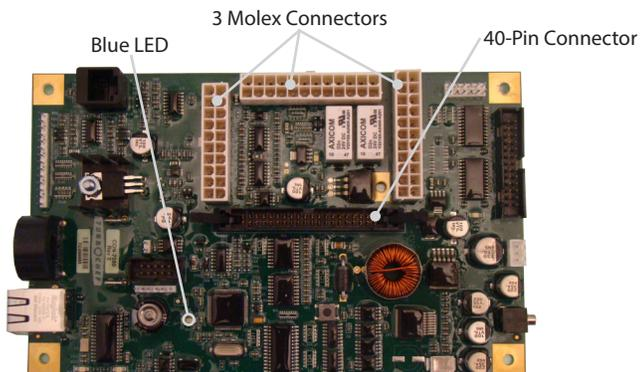

Figure 1: SAGE 2 Control Board
2. Install the SAGE 2 Control Board (Figure 1, below).
2. Install the SAGE 2 Control Board (Figure 1, page 2).